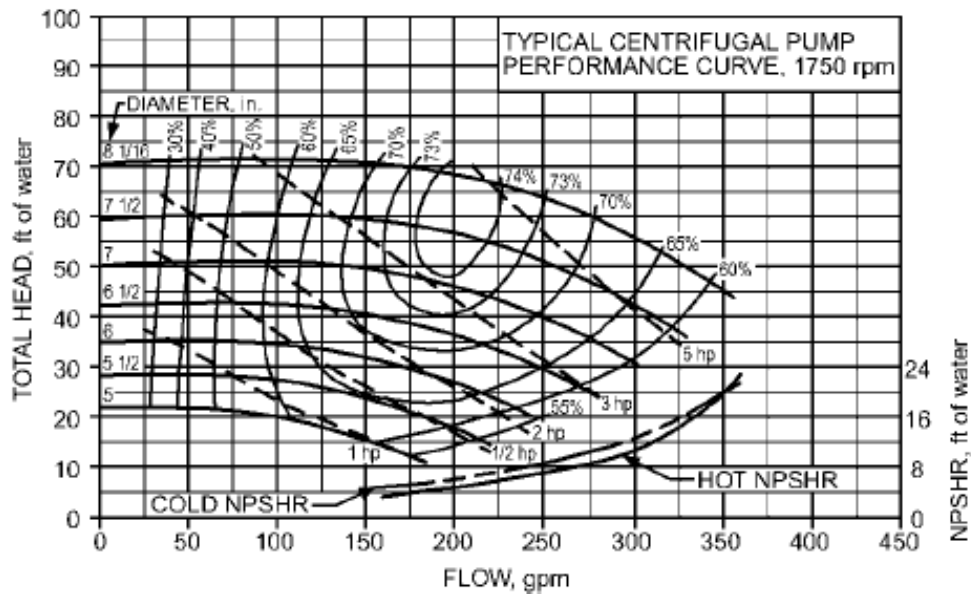

Figure 30 Pump Performance and NPSHR Curves
To determine the NPSHA in an existing installation, the following **equation 7** may be used (see Figure 30):
- Figure 30 shows pump curves and NPSHR curves.